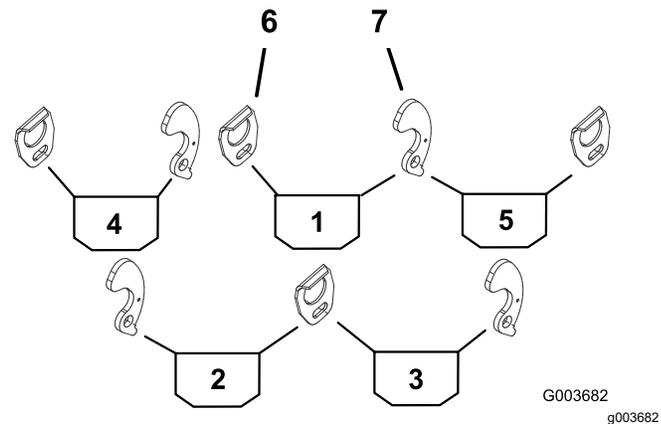

Figure 1
- Use Figure 1 to determine the locations for mounting the basket guides or basket brackets to the cutting-unit carrier frames.
- Mount a basket guide to the appropriate side of the carrier frame of each cutting unit (Figure 1) with a bolt (5/16 x 1/2 inch) and a flat washer (3/8 x 7/8 inch).